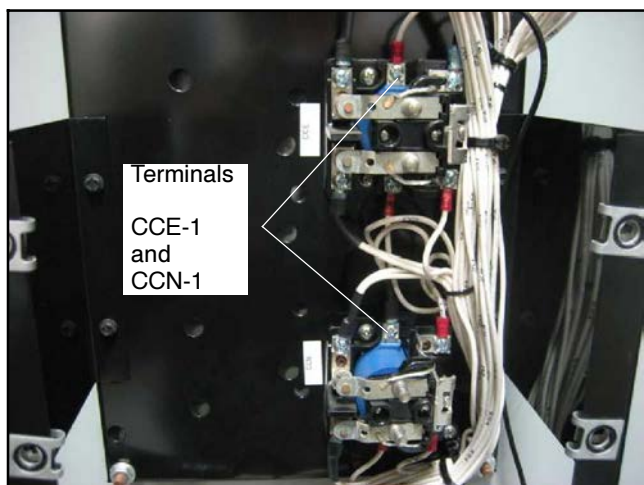

Figure 40 Disconnect Lead 33 from CCN-1 and CCE-1
26. Disconnect the leads labelled 33 from terminals CCN-1 and CCE-1. See Figure 40.